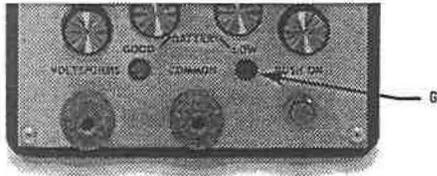

Figure 4
If the **LOW** indicator (G) starts blinking, the battery is weak and should be replaced. See Figure 4.